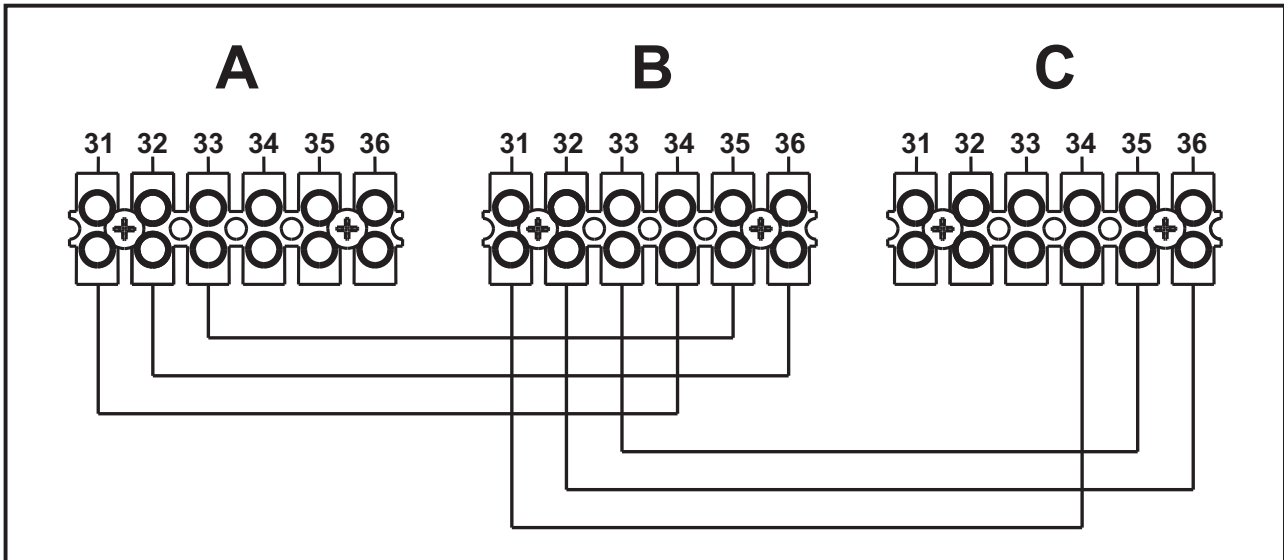

fig. 56 - Connection in cascade
1. Connect the modules as shown in fig. 56 (example with 3 modules)
If this does not occur, disconnect the power supply and check the wiring in fig. 56.